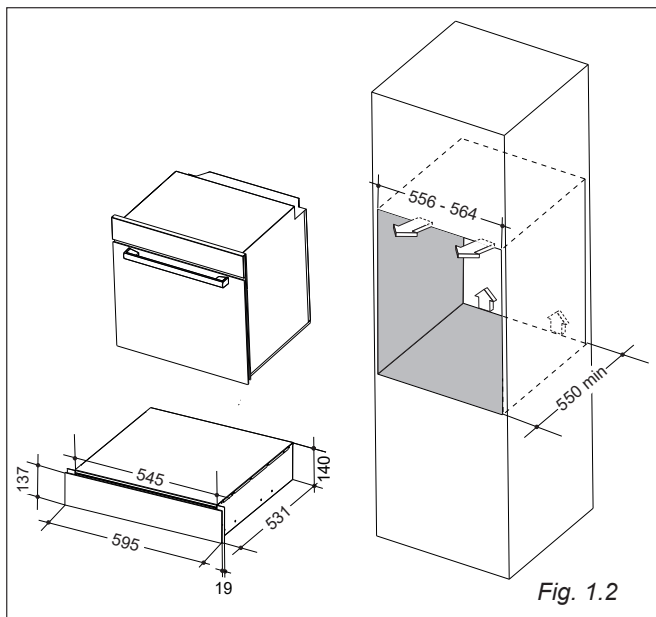

Fig. 1.2
- **Installation in combination with another appliance:** The housing unit must have a fixed internal shelf able to support the weight of both the drawer and the second appliance, which can be placed directly on the drawer, without any need for a separating shelf (fig. 1.2).